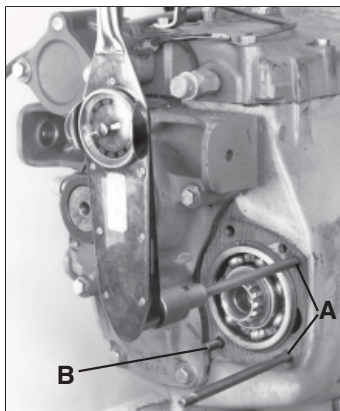

Fig. 5
Install the two 379054-83 studs (A) in the two side bolt holes. Install the short 378478-10 stud (B) in the lower left hand bolt hole as shown in Fig. 5. Then torque all three studs to 37-41 ft. lbs.